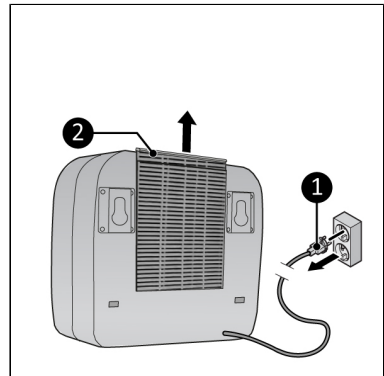

Figure 32.
- the plug is removed (Figure 32, pos. 1) from the power outlet.
2. Pull the frame up (Figure 32, pos. 2) and remove the filter.